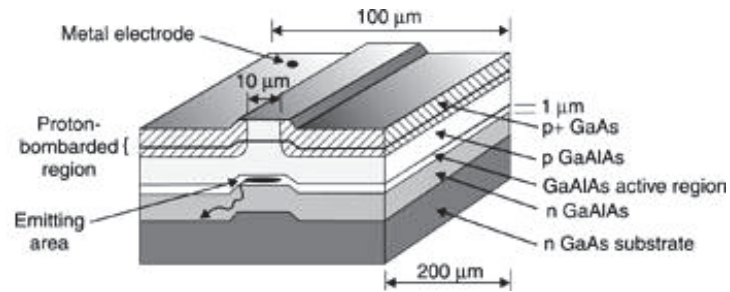

Figure 2 The epitaxial layers in LED device.
- (b). (i). Epitaxial layers are needed in semiconductor devices as shown in Figure 2. Explain THREE (3) functions of epitaxial layers.